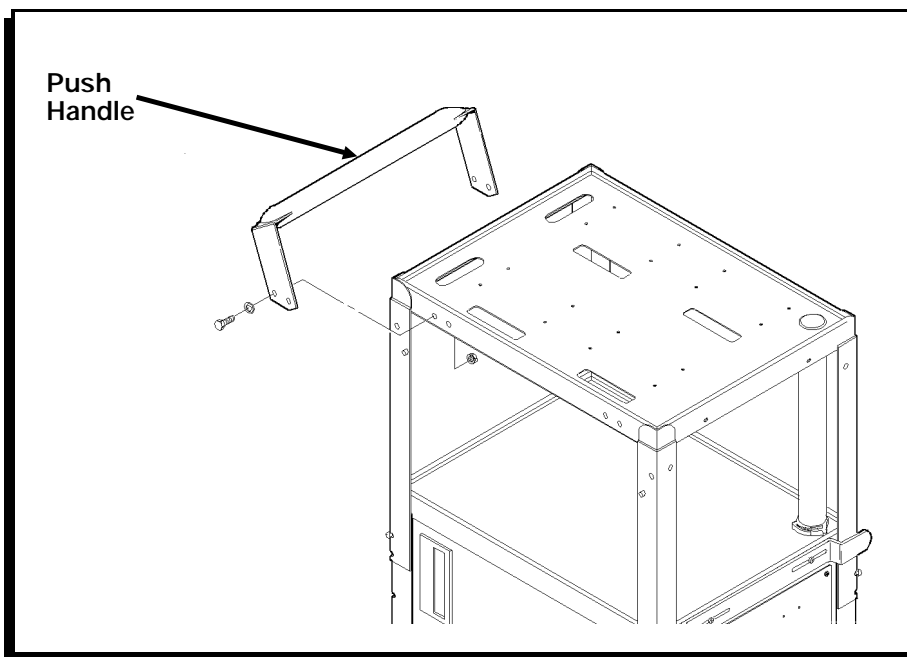

Figure 5
2. Attach the push handle to the front or rear of the Station using four 3/4" hex bolts, 1/4"-20 washers, and 1/4"-20 nuts as shown. (Figure 5.)